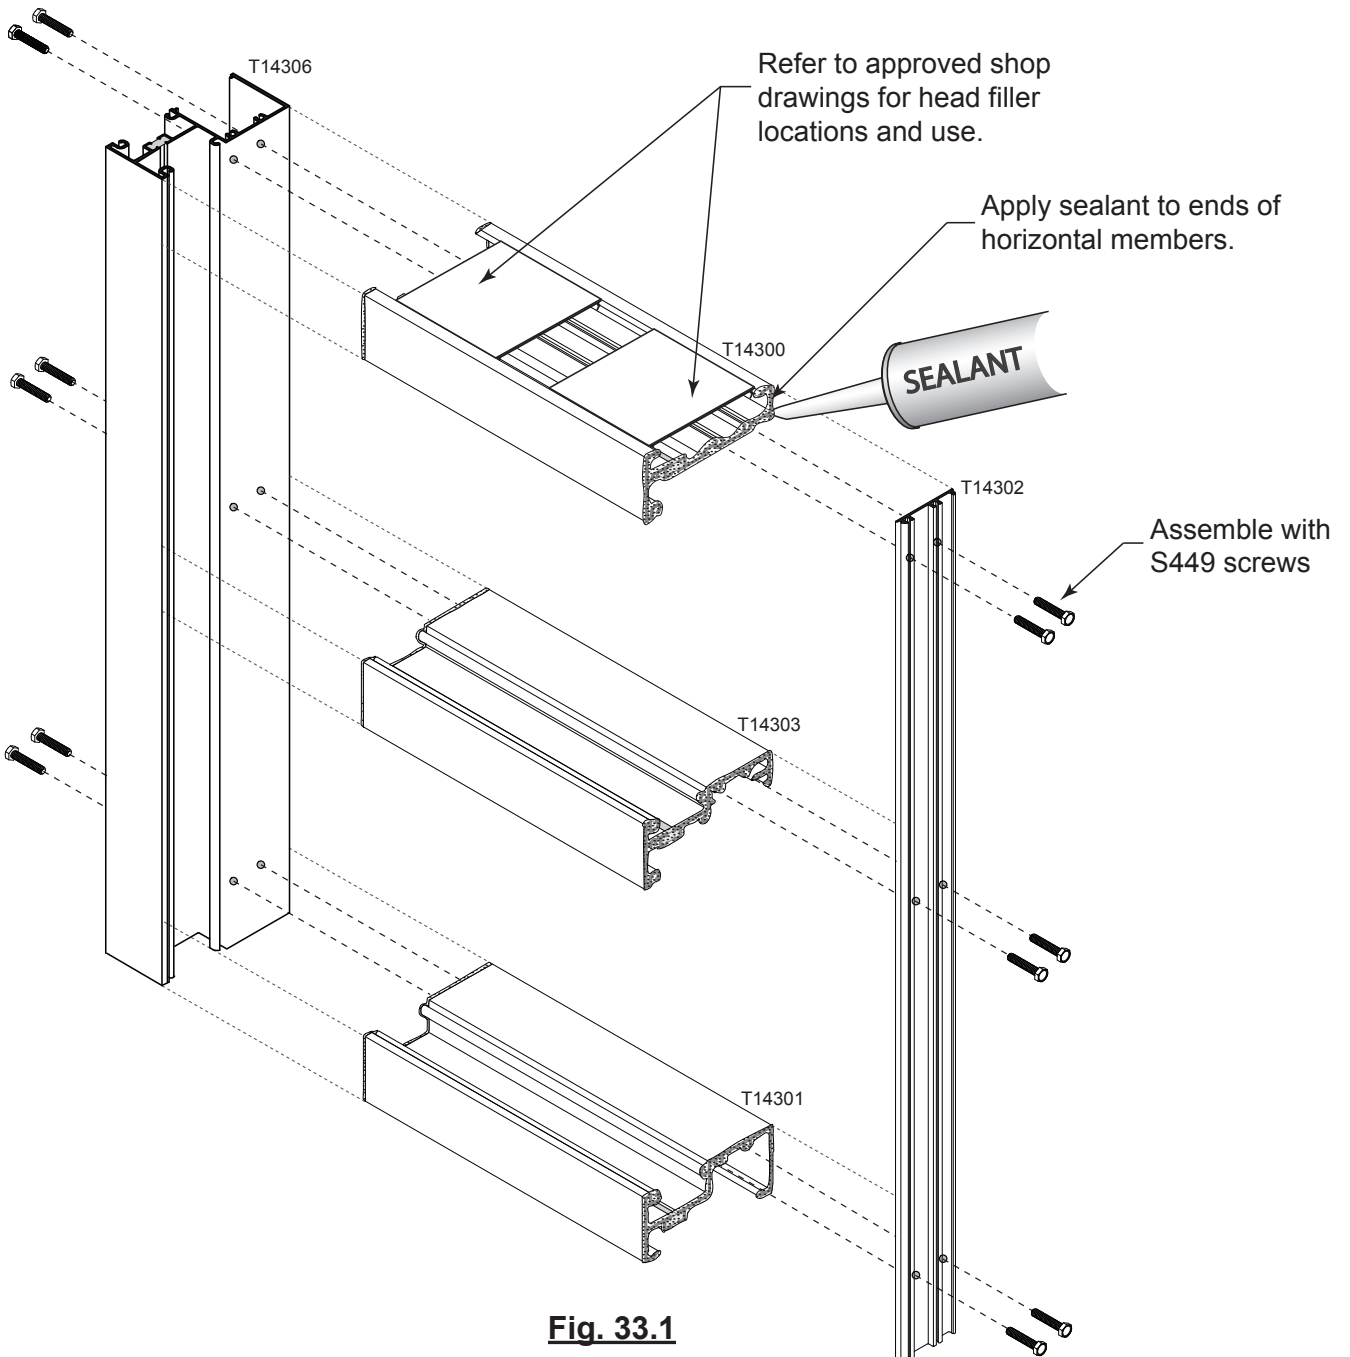

Fig. 33.1
- B. Apply sealant to ends of the head, horizontal, and sill members prior to attaching to the vertical members. See **Fig 33.1**